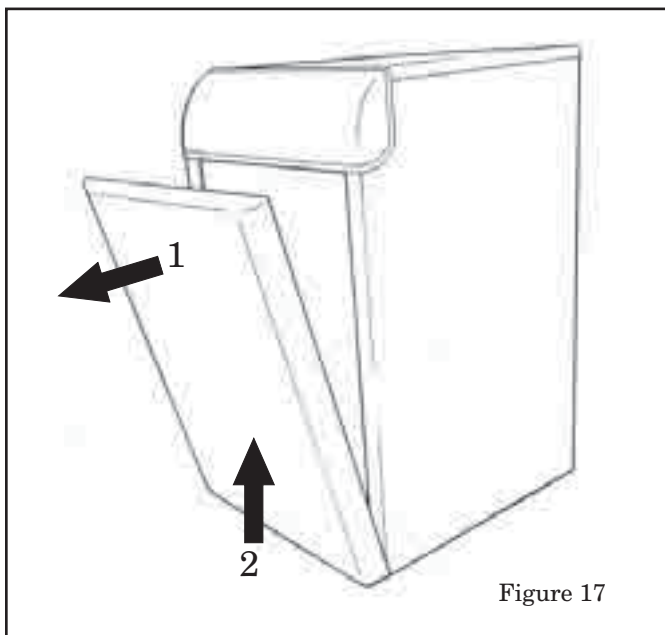

Figure 17
1. Remove boiler front access cover. First, pull at the top of the panel and rotate outwards. Then, lift up to remove. See Figure 17.